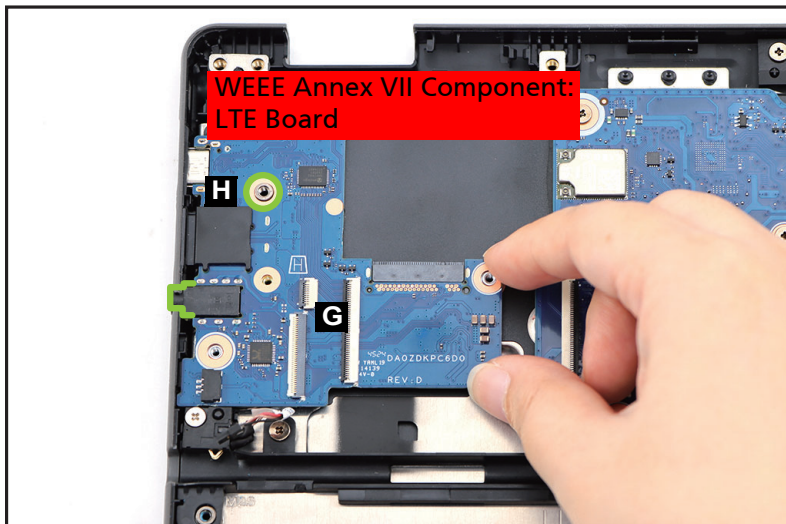

Figure 1-34. LTE Board Removal
7. Release the LTE board (G) from the I/O port slots and guide pin (H) on the top assembly (Figure 1-34). Then remove the LTE board.